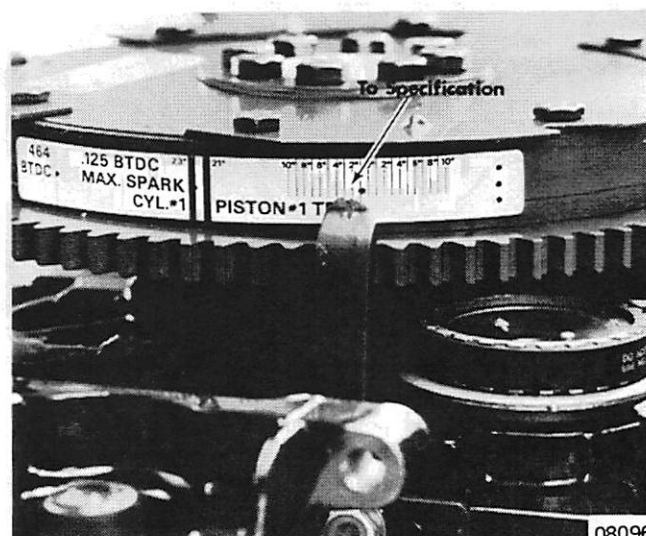

Figure 3. Adjusting Primary Throttle Pickup
1. With timing light installed, turn ignition key to "On" position if using remote starter switch, or start engine if in a test tank. Hold timing light in line with timing pointer and advance throttle until timing pointer as aligned with the primary pickup specification on the flywheel decal. (Figure 3)